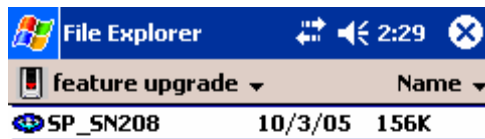

Figure 22. Use File Explorer to Run the Feature Upgrade
- f. Tap the *SP_SNxxx* file to start the *SPActivate* program (see Figure 22).